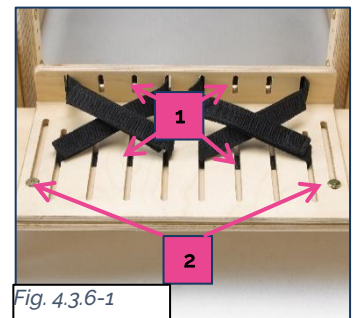

Fig. 4.3.6-1
2. The distance between the chair and the footplate can be adjusted by loosening the two bolts on either side of the footplate with a hex key (see Fig. 4.3.6.1 Ref 2).